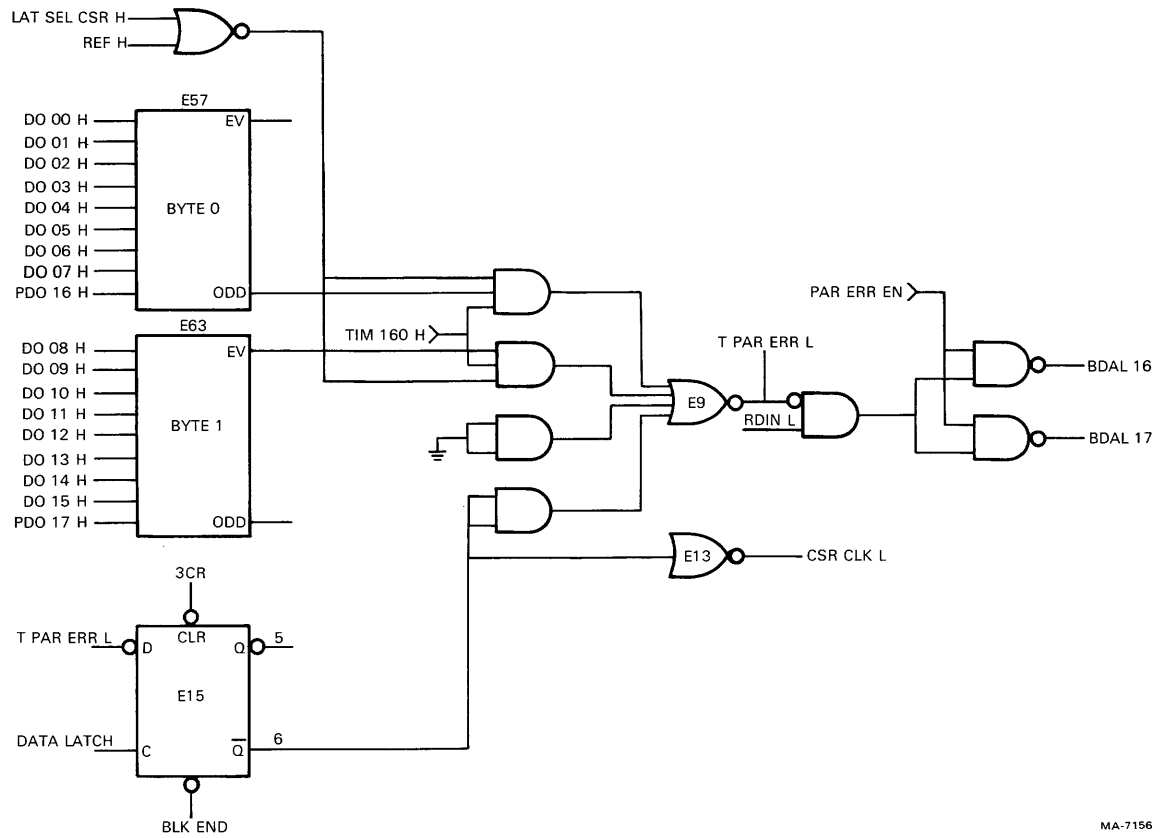

Figure 3-14 Parity Checkers
3.3.7.2 Parity Checker – The MSV11-P memory modules detect parity errors, report parity errors, and save the address of the parity error in the CSR register. Parity detection logic always expects byte 0 to have an even number of one bits and byte 1 to have an odd number of one bits. If this does not happen, T PAR ERR L is generated (Figure 3-14).
- When the data is latched, the signal CSR CLK is generated if there is a parity error (Figure 3-14).